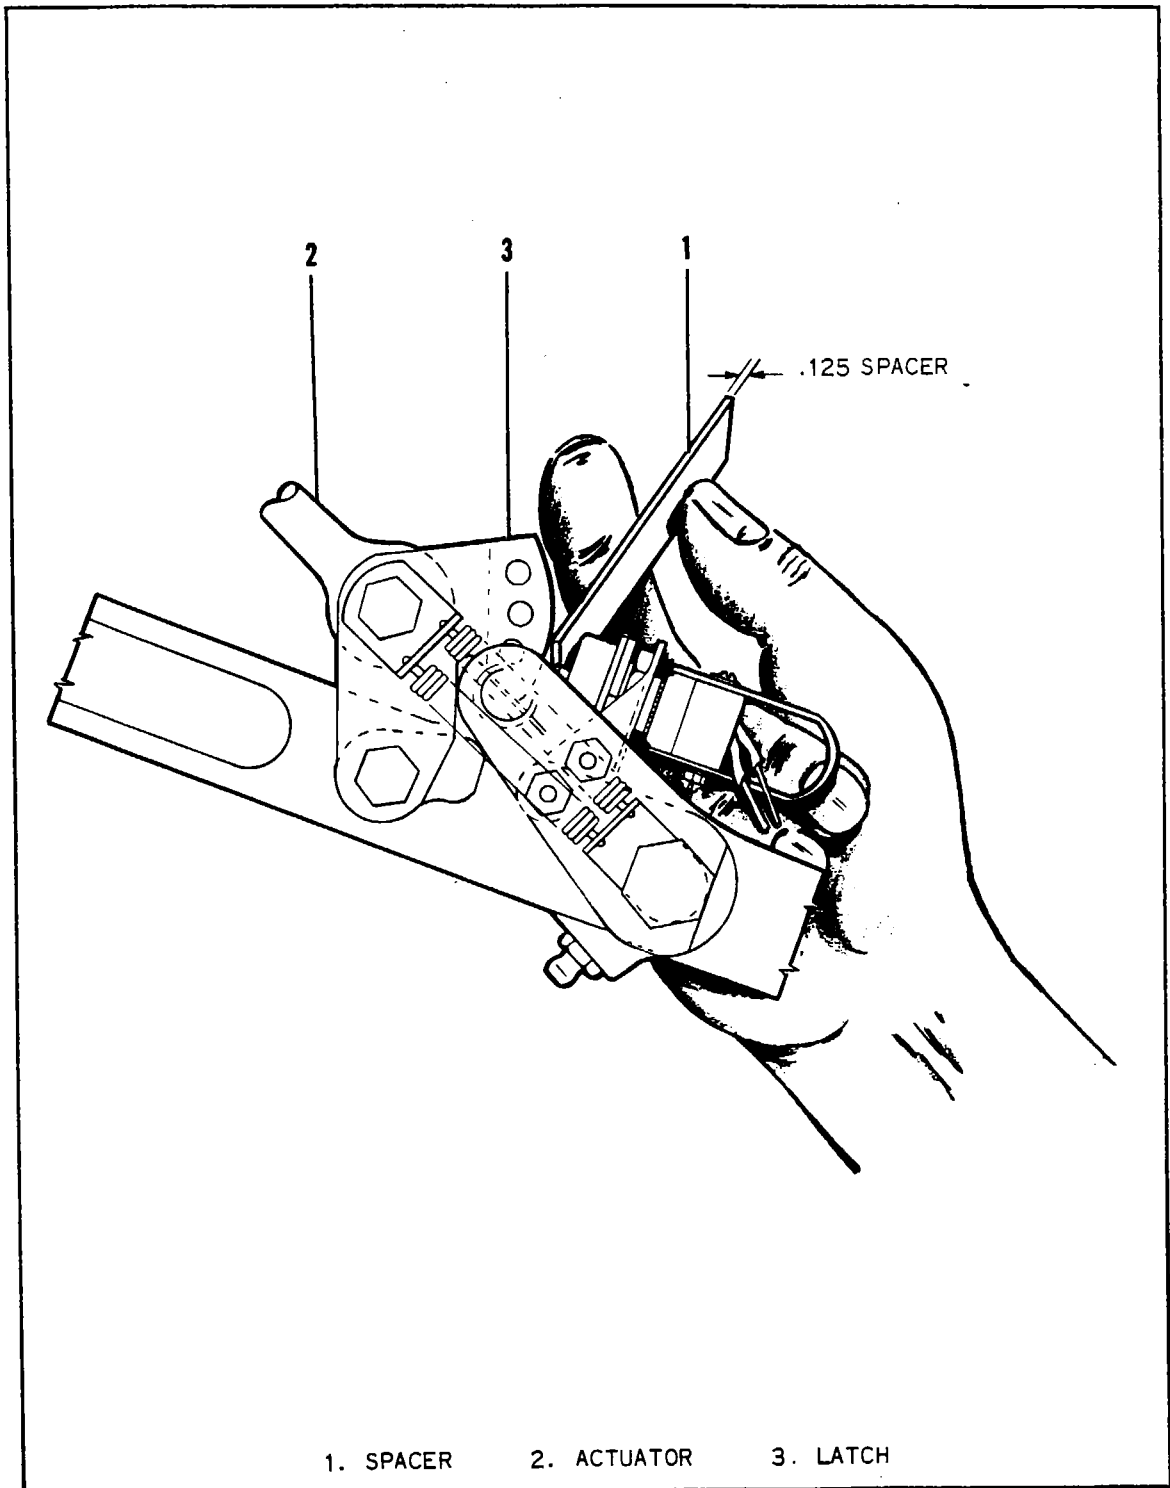

Figure 7-8. Adjusting Landing Gear Limit Switches
- a. Depress the landing gear selector lever and lower the landing gear by means of the hand pump. Place a 1/8-inch wide spacer between the latch and the switch actuator. Adjust the switch so that the actuator is completely depressed. (Refer to Figure 7-8.)